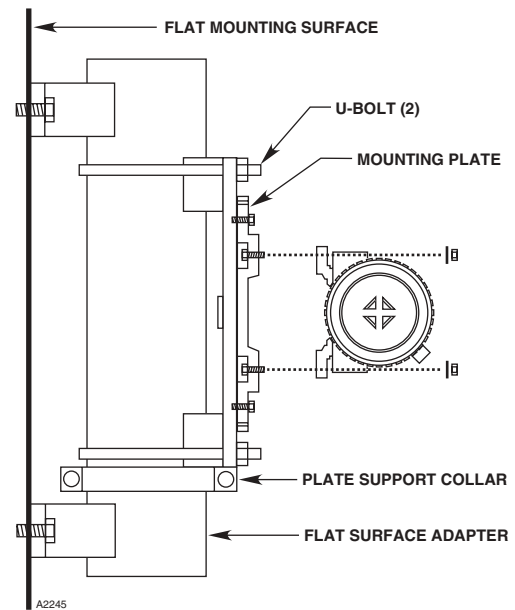
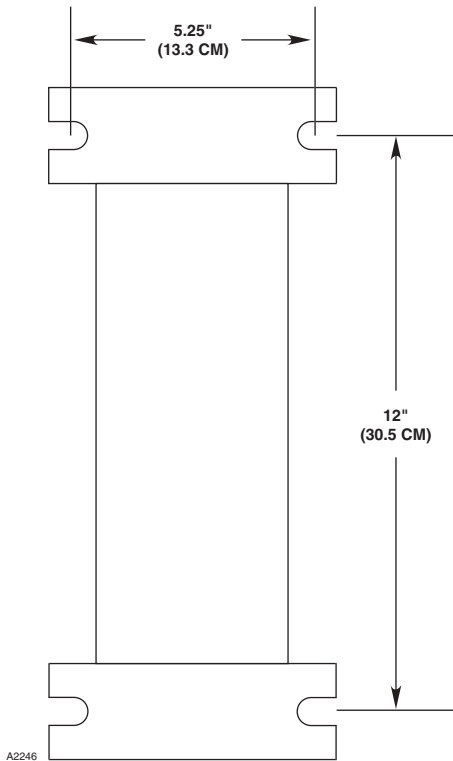

Figure 4—OPECL Gas Detector Mounted to Flat Surface using Flat Surface Adapter
Figure 5—Hole Pattern for Flat Surface Mount Adapter
- For flat surface mounting, the OPECL flat surface mount adapter is available. Ensure that the flat surface is capable of supporting a minimum of 100 lbs (46 kg). See Figure 4. For mounting hole pattern, refer to Figure 5.